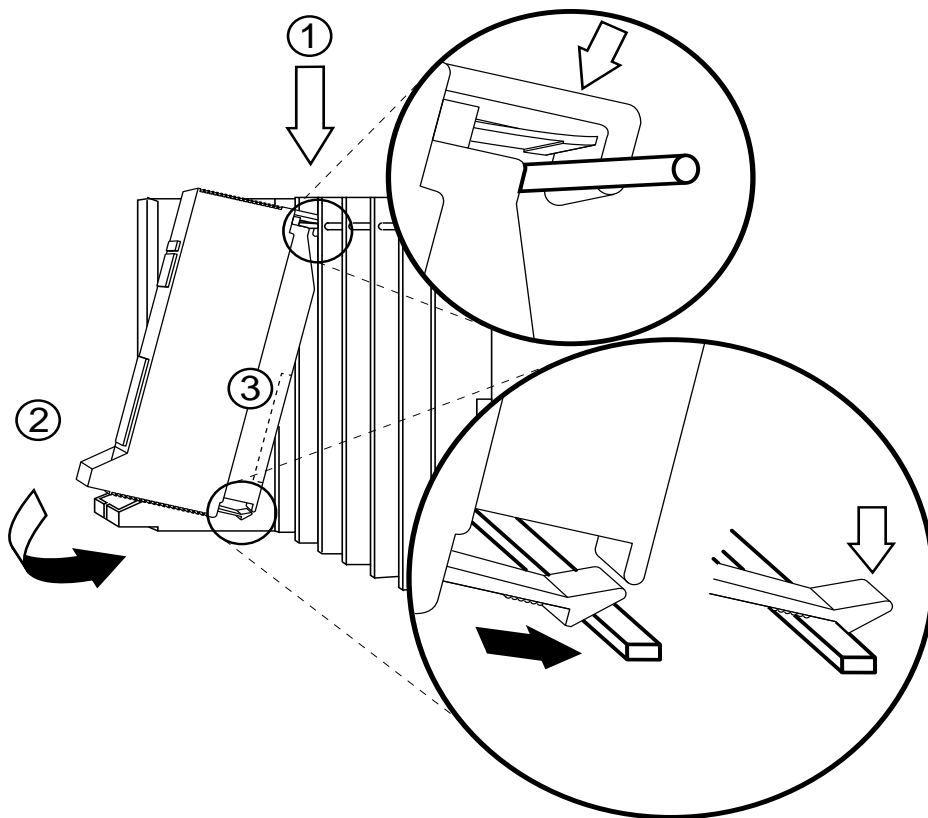

Figure 2-10. Installing the Processor into the Carrier
To install the processor in the carrier, follow the steps below. Refer to Figure 2-10.
To avoid damage, do not force the module. If the module does not insert easily, press the bottom rear locking tab, remove the module, and inspect the module and carrier for damage or obstruction. The bottom-rear locking tab is shown in Figure 2-10. This tab is used on all modules.
- ▶ **3. Lower the hook on top of the module onto the rod on the top of the carrier in the appropriate slot. See Figure 2-10.**